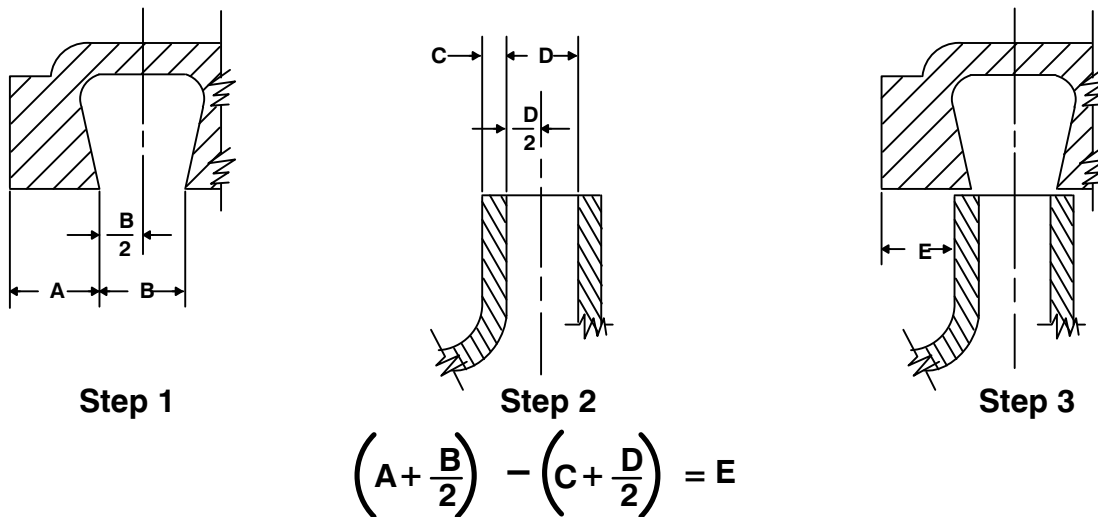

Figure 3. Centering Impeller Within Vane Plate Scroll
To verify the impeller positioning, measure the vane plate and impeller as shown in Figure 3. Use these measurements to calculate the required impeller location (dimension E). Add or remove impeller adjusting shims (8) until dimension E is obtained.